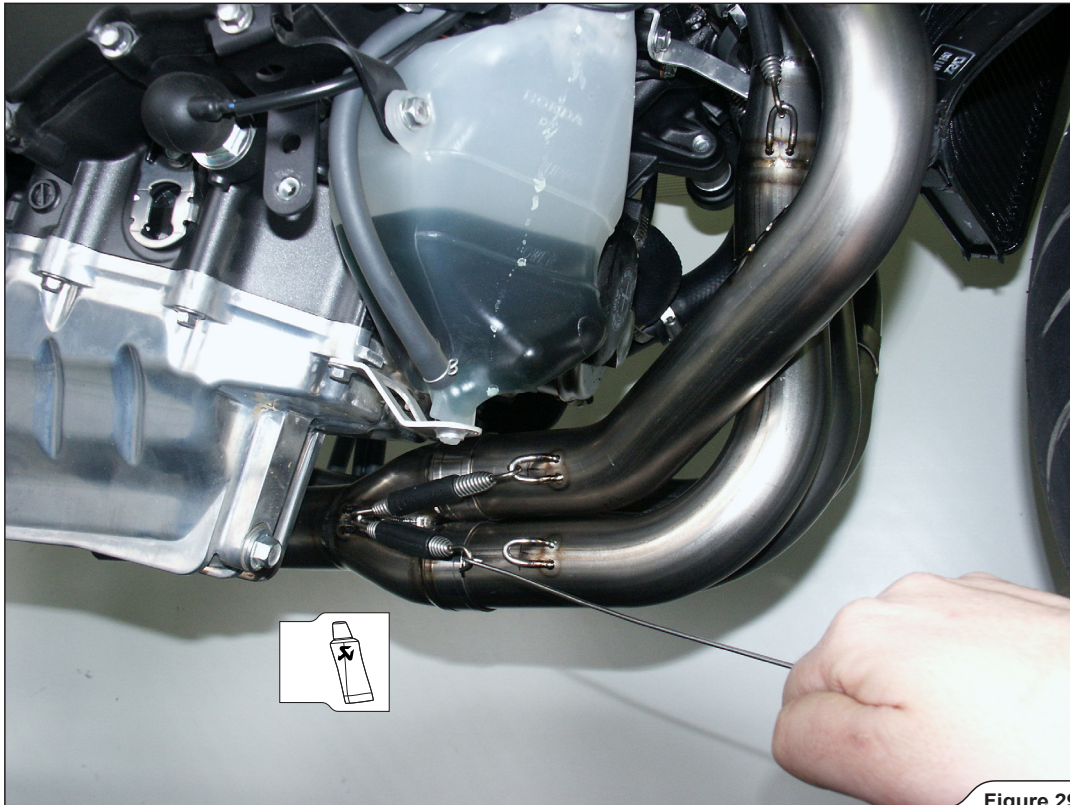

Figure 29
- Slide the collectors onto the header tubes; make sure they are correctly oriented (**Figure 29**). **For Evolution exhaust only:** coat the interior side of the input bushes of the titanium collectors with Akrapovič ceramic anti-seizing grease (white tube).